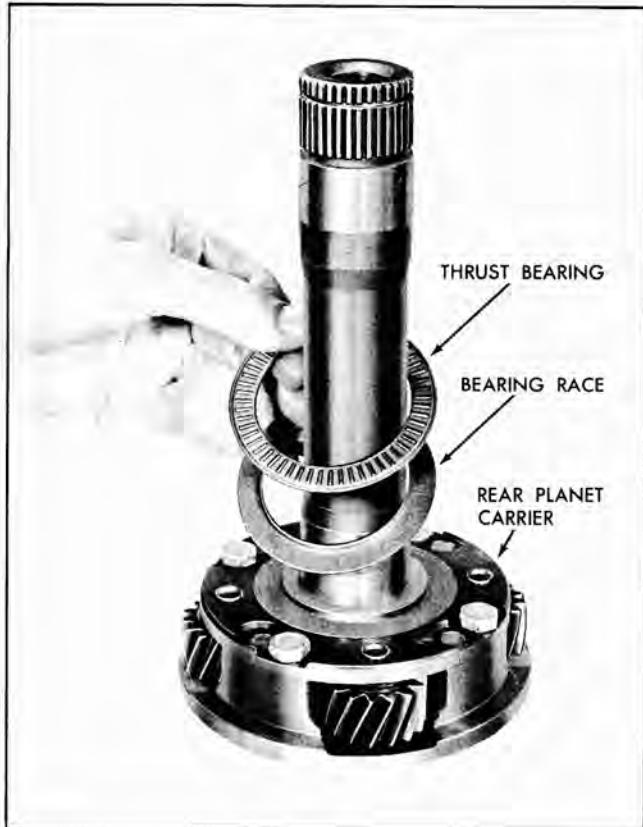

Fig. 120 Installing Thrust Bearing on Rear Planet Carrier
4. Install bearing race (flange up) and bearing on rear planet carrier. Retain with petroleum (Fig. 120.).